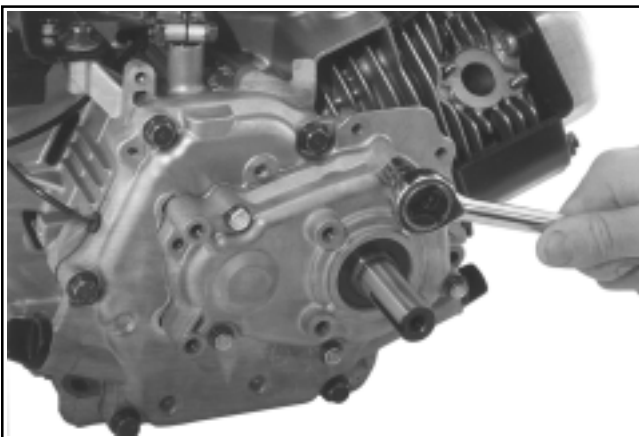

Figure 9-53. Removing Reduction Housing Screws on CS4, CS6.
2. Remove the mounting bolts securing the reduction system housing onto the crankcase. Place a flat pan or towel under the housing to catch any remaining oil. See Figures 9-53 and 9-54.